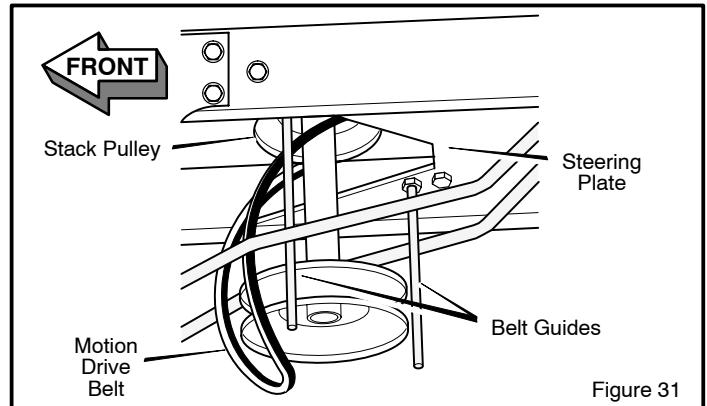

Figure 31
7. To remove the **motion drive belt** from the **stack pulley**, pull the front end of the belt under the **stack pulley** and then back between the stack pulley and the **steering plate** (Figure 31).
1. Slide the **motion drive belt** between the **stack pulley** and the **belt guides** (Figure 31). Install the **motion drive belt** on the top pulley of the **stack pulley**. Make sure the "V" side of the belt is against the pulley.